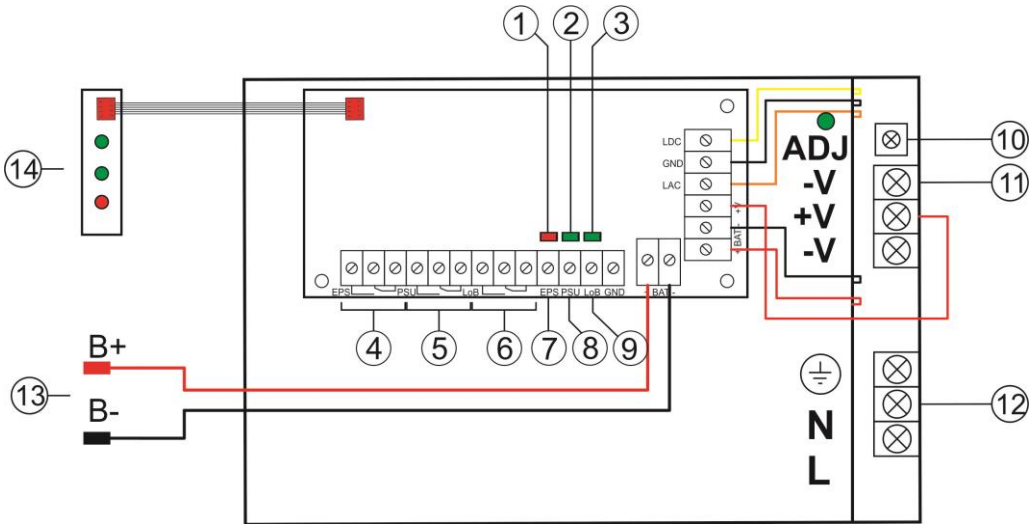

Fig. 2. The view of the PSU.
Table 1. Elements of the module's (tab.1, fig.2).
Fixation	See figure 2
- red LED (Fig.2, element 1) normal status (AC power): permanently illuminated. AC power absence is indicated by the AC diode going out.
- green LED (Fig.2, element 2) indicates DC power at the PSU output. Under normal status the diode is permanently illuminated. In case of a short circuit or an overload, the diode is off.
- green LED (Fig.2, element 3) indicates battery voltage level. Under normal status ($U_{BAT} > 11,5V$) the diode is permanently illuminated. In case of decrease of battery voltage ($U_{BAT} < 11,5V$) the diode is off.
CAUTION! In Fig.2. the contact set in the potential-free status corresponds to a state with no AC power (AC power failure).
CAUTION! In the Fig.2. the set of contacts shows a potential-free status of the relay which corresponds to a state with no DC power (PSU failure).